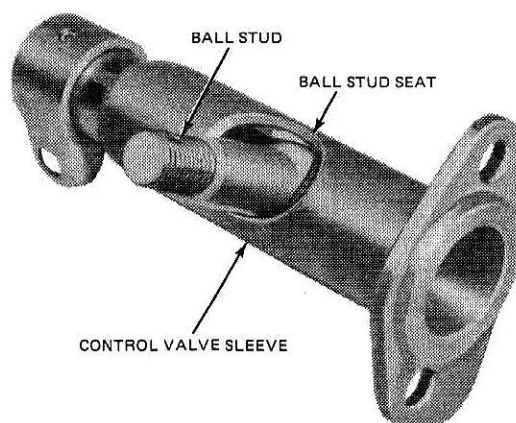

FIG. 14 Installing Ball Socket, Seal and Bracket
3. Insert one of the ball stud seats, flat end first, into the ball stud socket (Fig. 14). Place the ball stud socket into the control valve sleeve as far as possible with the threaded end towards the flange.
Insert the ball stud through the openings in the valve sleeve and the ball stud socket (Fig. 14). Pull the socket out as far as possible and hold it on the socket at the ball stud opening (Fig. 10). Insert the remaining seat, round side toward stud. Install the bumper and the bumper spring. Assemble the travel regulator and spool bolt. Install cushion and washer onto regulator and thread regulator into ball stud socket. Using the proper wrench on the flats of the regulator, torque the travel regulator to 5-10 ft-lb. Then loosen the regulator until the nearest hole is aligned with the slots, at least 1/2 a hole but no more than 1-1/2 hole. Insert the pin. It may be necessary to rotate spool bolt to allow slot in head to align with pin. Tilt the ball stud toward the housing end to retain the pin. Place nut onto stud to protect threads. Using an in-lb torque wrench, measure the torque required to rotate the ball stud. If rotational torque exceeds 35 in-lb, verify proper assembly and adjustment. It may be necessary to loosen the regulator to the 1-1/2 hole location. Lay assembly aside.